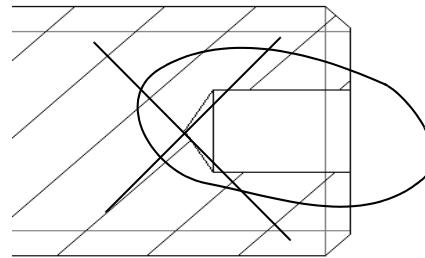

Figure 1–81
11. Select the centerpoint for the Detailed view, as shown by the X in Figure 1–81. The reference appears in the Reference column.
12. Sketch a closed spline, as shown in Figure 1–81. This area defines the boundary of the local section.